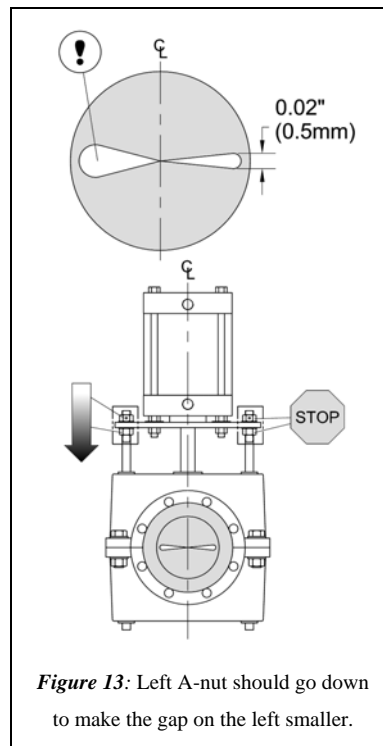

Figure 13: Left A-nut should go down to make the gap on the left smaller.
If the gaps appear to be uneven (Figs. 13 & 14), adjustments will have to be done the A-nuts.
- to make the gap smaller, the A-nut should go DOWN (Fig. 13)